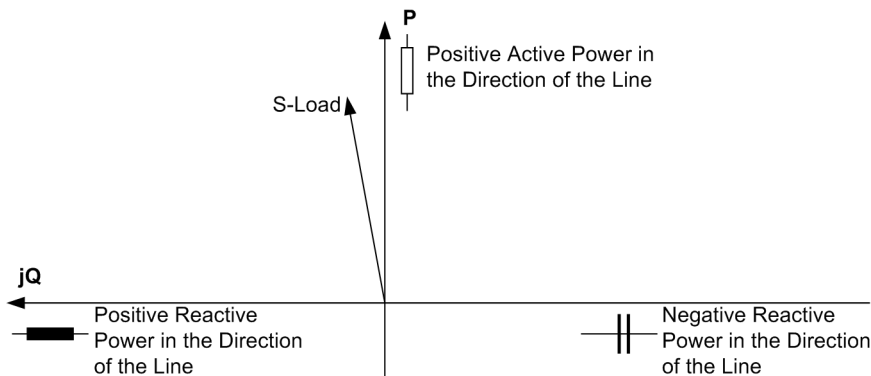

Figure 3-30 Apparent load power
- The measured power values on the actual device or in DIGSI enable you to verify that they correspond to the load direction (Figure 3-30):